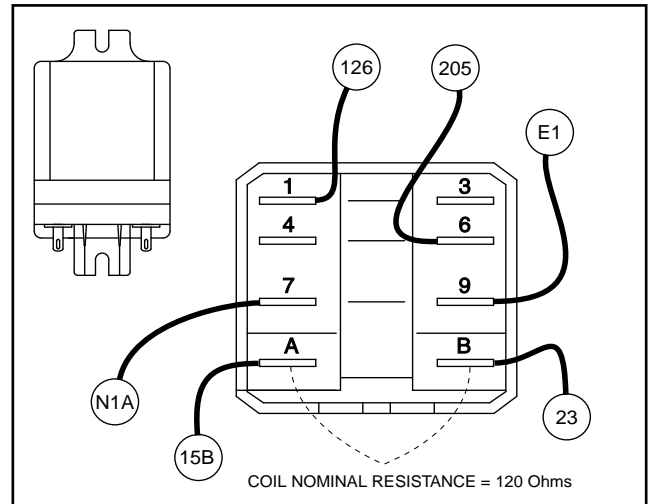

Figure 3. Transfer Relay Test Points
1. See Figure 3. Disconnect all wires from the transfer relay, to prevent interaction.